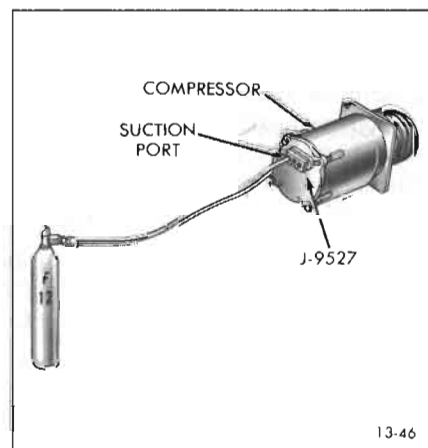

Figure 13-46—Leak Testing Shaft Seal and Seal Seat O-Ring
5. Attach Compressor Leak Test Fixture (J-9527) on rear head of compressor and connect gauge charging lines as shown in Figure 13-46. Pressurize suction side of compressor with refrigerant 12 (cylinder at room temperature). Temporarily install shaft nut and rotate compressor shaft several times. Leak test seal and correct any leaks as necessary. Remove and discard shaft nut.